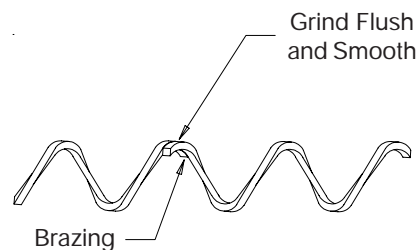

Figure 22: Brazing the Auger.
The auger should be handled with great care. Do not install the auger until the kinks have been removed. The kink may be removed by straightening the auger. A kink may cause extensive wear on the system and premature part replacement. In the event that the kink cannot be removed by straightening, the kink must be cut out and the auger welded (See Brazing recommendations in Figure 22).
2. Position the auger in an angle iron and clasp it securely to align it for brazing (see Figure 22).